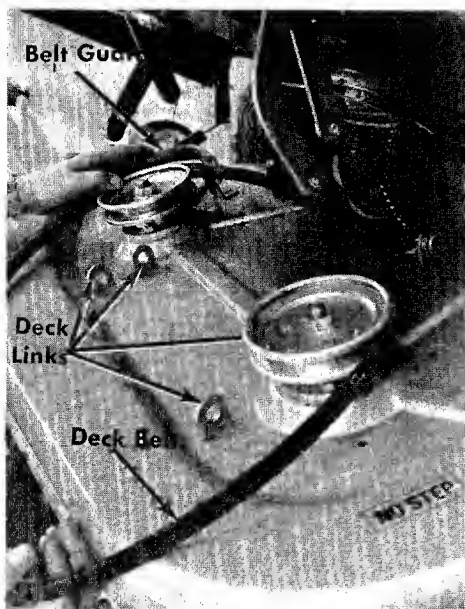

FIGURE 31. DECK LINKS
Step 6. Remove the front four deck links from the cutting deck. See figure 31.
Step 7. Remove the belt guards from both deck pulleys. See figure 31.
Step 9. Removing the transmission belt. See figure 31.
- b. Remove the transmission pulley by removing the hex nut and washer. See figure 31.